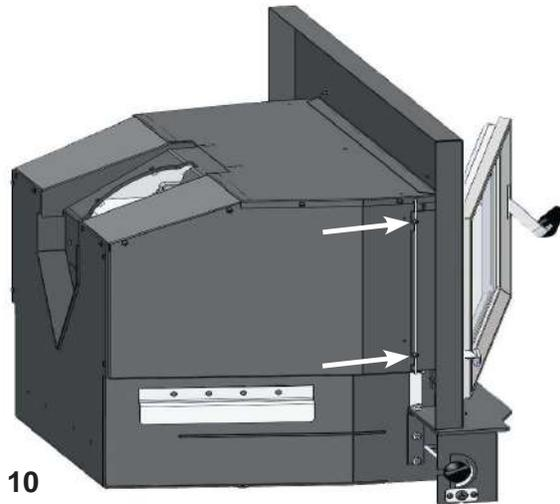

Fig. 10
1. With the loading door open, align notches on the left side of the rear shroud with the screws protruding out of the firebox can. Once in position, do the same with the right side of the rear shroud. Push back and downwards on shroud to ensure it is locked in place then tighten all four screws using a #2 Robertson screwdriver. (Fig. 10)